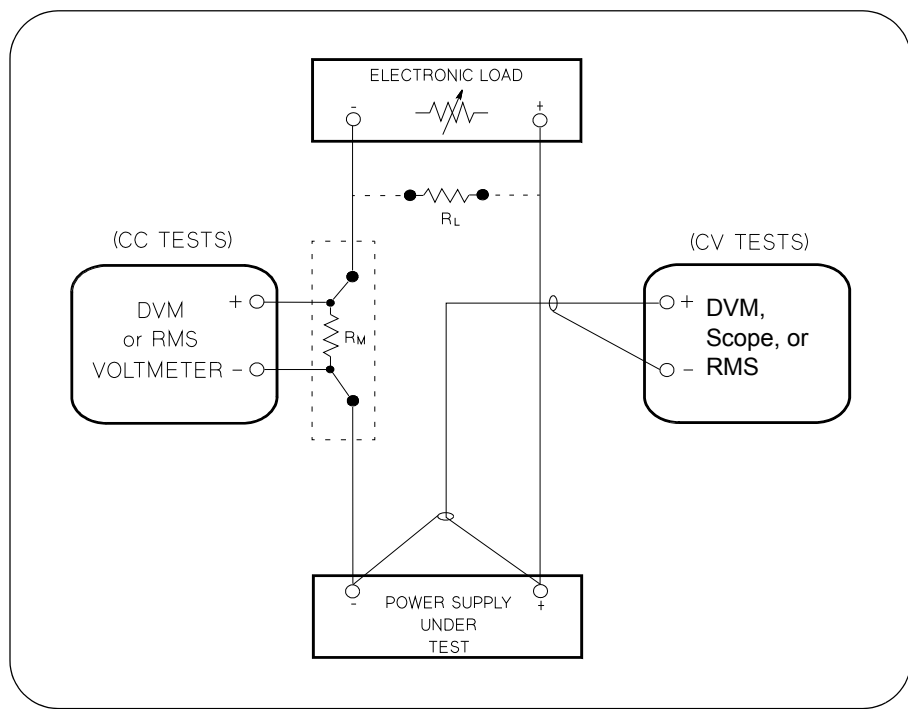

Figure A-1 Performance Verification Test Setup
Most tests are performed at the front terminals as shown in Figure A-1. Measure the dc voltage directly at the (+) and (-) terminals on the front panel.
To eliminate output current measurement error caused by the voltage drops in the leads and connections, connect the current monitoring resistor between the (-) output terminal and the load as a four-terminal device. Connect the current-monitoring leads inside the load-lead connections directly at the monitoring points on the resistor element (see R_M in Figure A-1).
- 1 Turn off the power supply and connect a digital voltmeter between the (+) and (-) terminals of the output to be tested as shown in Figure A-1.
- 1 Turn off the power supply and connect a digital voltmeter between the (+) and (-) terminals of the output as shown in Figure A-1.
- 4 Operate the electronic load in open mode (input off). Record the output voltage reading on the digital voltmeter immediately. The difference between the digital voltmeter readings in steps (3) and (4) is the CV load regulation. The difference of the readings during the immediate change should be within the limit of (5 mV)* or (9 mV)**.
- 6 Adjust the transformer to high line voltage (127 Vac for nominal 115 Vac, 110 Vac for nominal 100 Vac, or 253 Vac for nominal 230 Vac). Record the voltage reading on the digital voltmeter immediately. The difference between the digital voltmeter readings in steps (5) and (6) is the CV line regulation. The difference of the readings during the immediate change should be within the limit of (5 mV)* or (9 mV)**.
- 1 Turn off the power supply and connect the output to be tested as shown in Figure A-1 to an oscilloscope (ac coupled) between (+) and (-) terminals. Set the oscilloscope to AC mode and bandwidth limit to 20 MHz. Connect a resistive load (13.5Ω)[‡] to the terminal at (B) as shown above.
- 1 Turn off the power supply and connect the output to be tested as shown in Figure A-1 with an oscilloscope. Operate the electronic load in constant current mode.
- 1 Turn off the power supply and connect a 0.01 Ω current monitoring resistor (R_{M1}) across the output to be tested and a digital voltmeter across the current monitoring resistor (R_{M1}) as shown in Figure A-1.